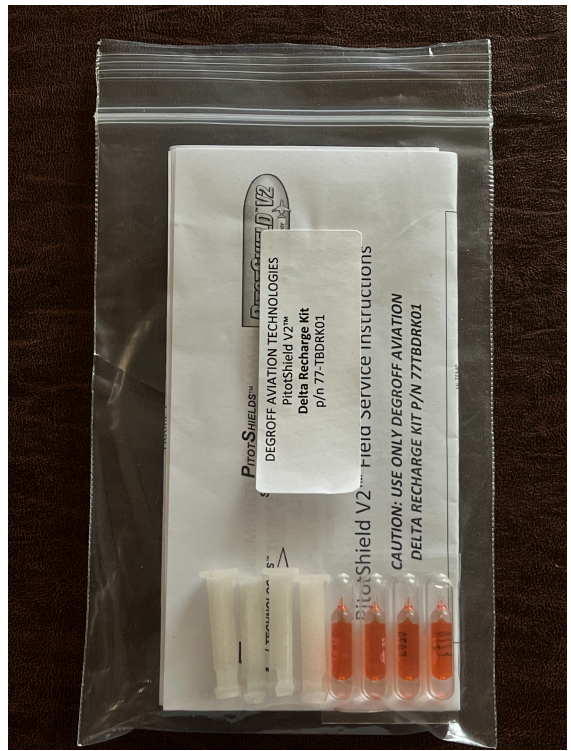

Fig. 4
- a. Collect the PSV2 components and the Thermal Actuator Retainer. Retrieve a Thermal Actuator bulb from the Delta Recharge Kit (Figure 4). Engage the three lower hinge hooks as shown in figure 5. Bring the two halves together until opposed as in Figure 6, with the lower hooks engaged. Ensure that the RBF attachment and the Retainer Ring chords are not impinged between the pitot cover halves. Hold the PSV2 in one hand in such a way that that both halves will be held together, nose cone pointed straight down.